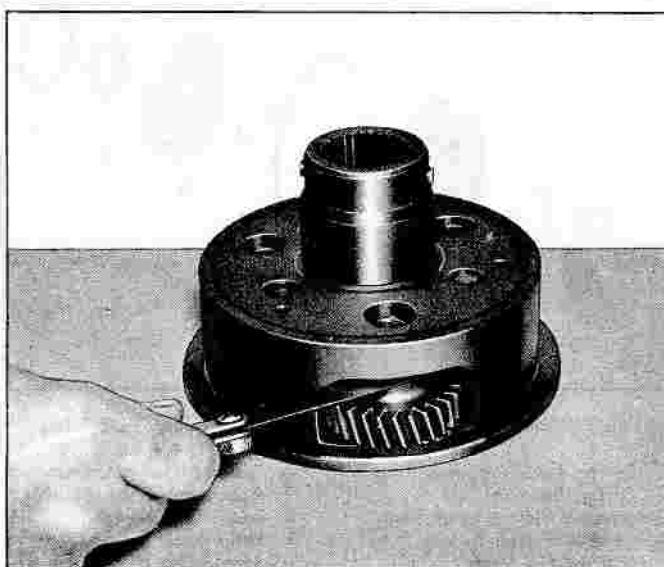

Fig. 7E-44—Checking Planet Gear End Clearance
3. Check end clearance of planet gears. This clearance should be .005"-.035" (fig. 7E-44).